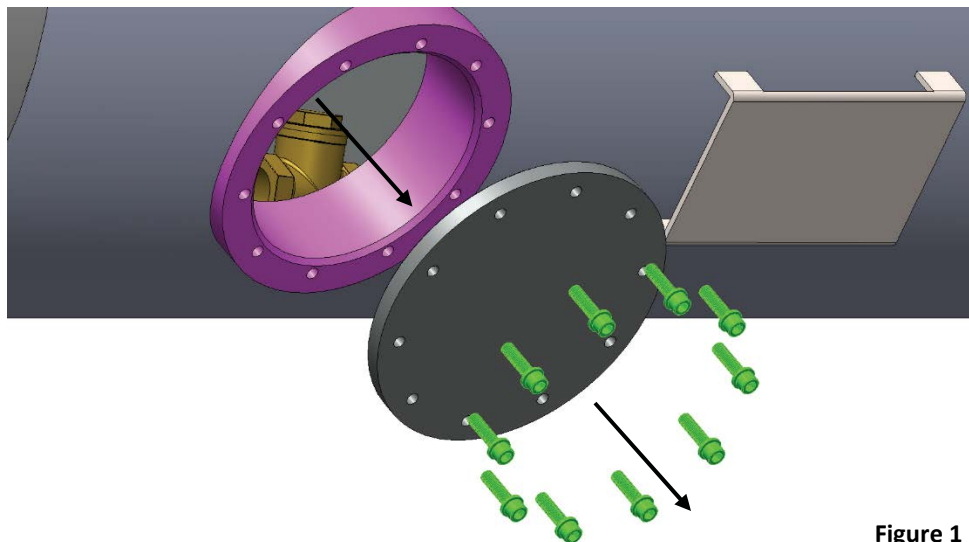

Figure 1
3. Remove LPI® access cover and bolts (QTY:10) (Figure 1) **Note: Be sure to remove and discard o-ring from access cover this will be replaced in the installation process.**